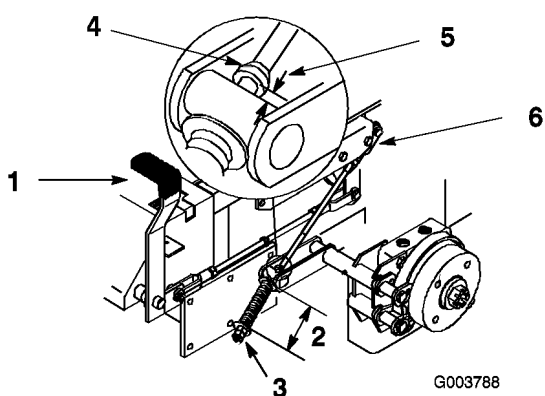

Figure 54
The measurement should be 2-3/4 inch (70 mm) between washers (Figure 54).
below the yoke (Figure 54). Turn the nut until the correct measurement is obtained. Tighten the two nuts together and repeat on opposite side of unit.
The measurement should be 3/16-1/4 inch (5-7 mm) (Figure 54).
7. If adjustment is necessary, loosen the jam nut directly below the yoke. Turn the bottom rod until the correct measurement is obtained (Figure 54). Tighten jam nut at yoke